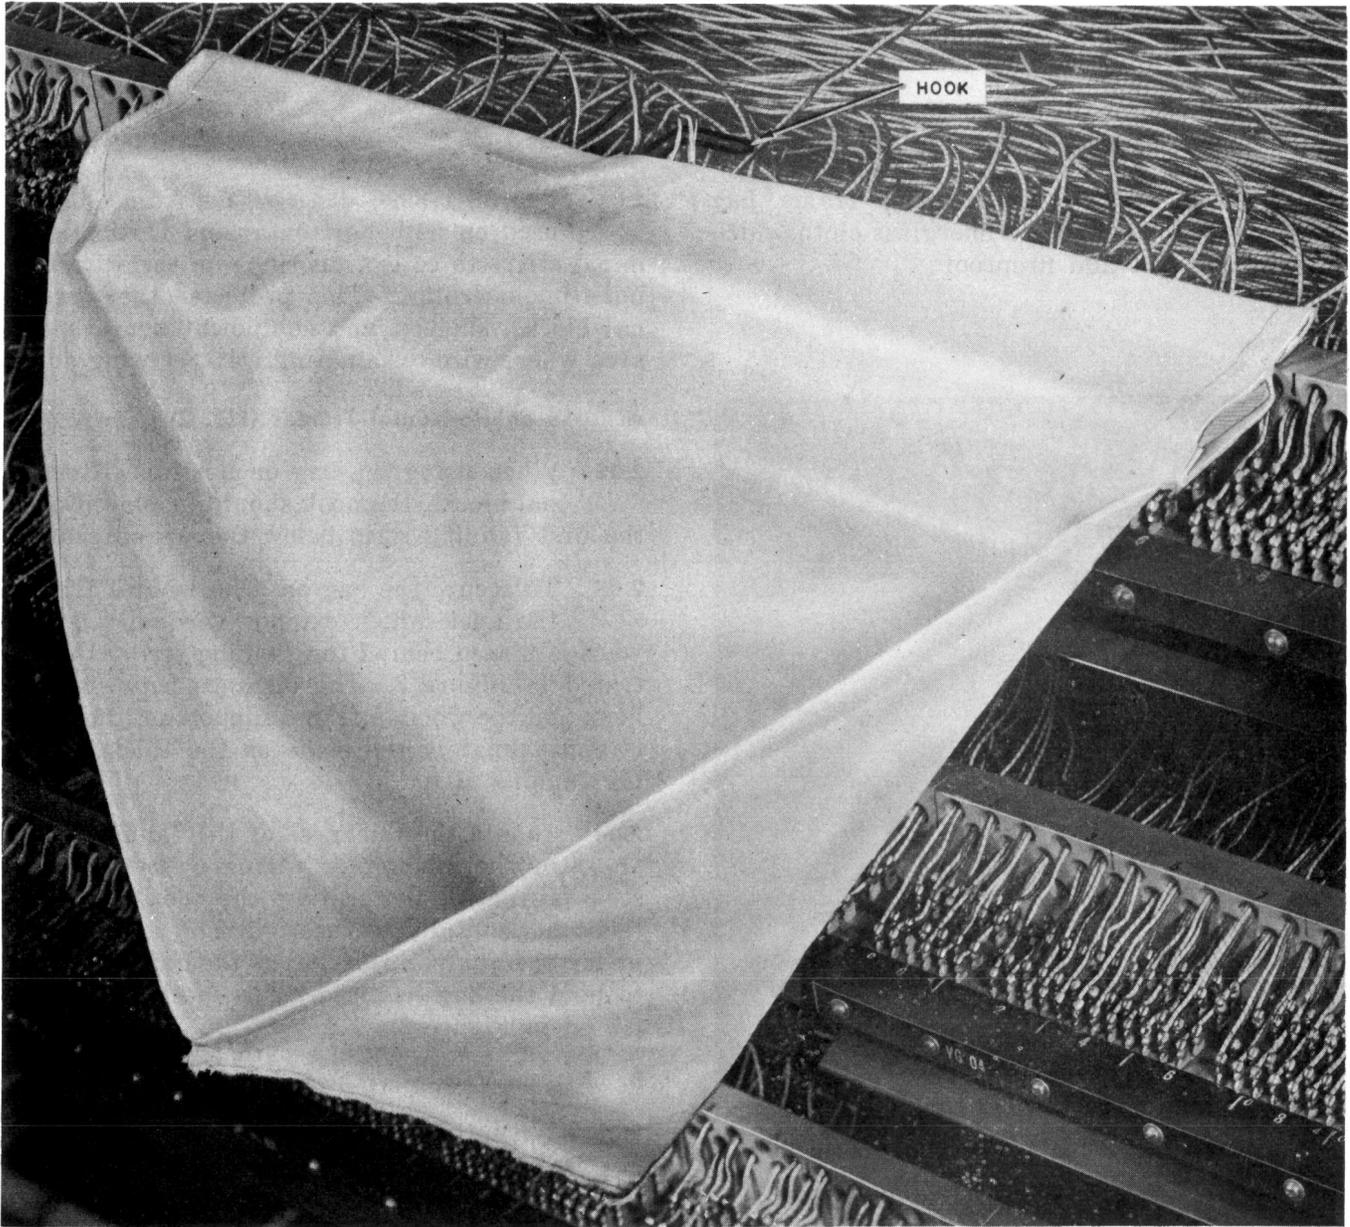

Fig. 2 — Distributing Frame Bag on Horizontal Frame
A. Use on Horizontal Frames (Fig. 2)
2.04 Should the thickness of the fanning strip or the amount of wiring in the fanning strip prevent proper seating, the hook which extends horizontally to the right may be inserted under the jumper runs from the fanning strip to hold the bag in place. This method is illustrated in Figure 2.